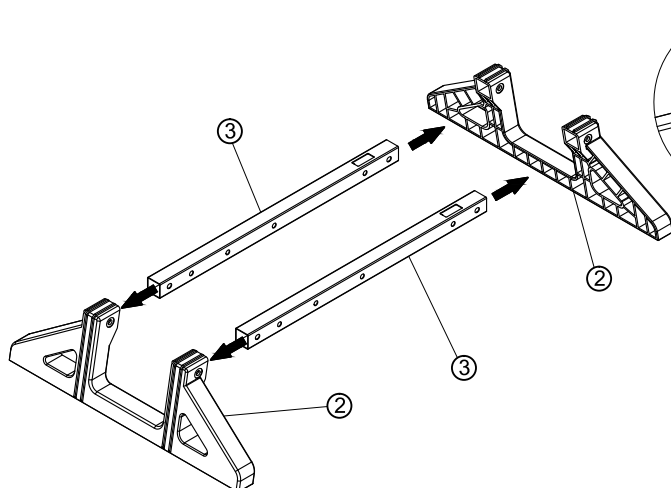

Figure 1.1
1. Insert the front and rear ends of the brackets③ into the base stands②, aligning the screw holes of the base stands② with those of the brackets③. (See Figure 1.1)